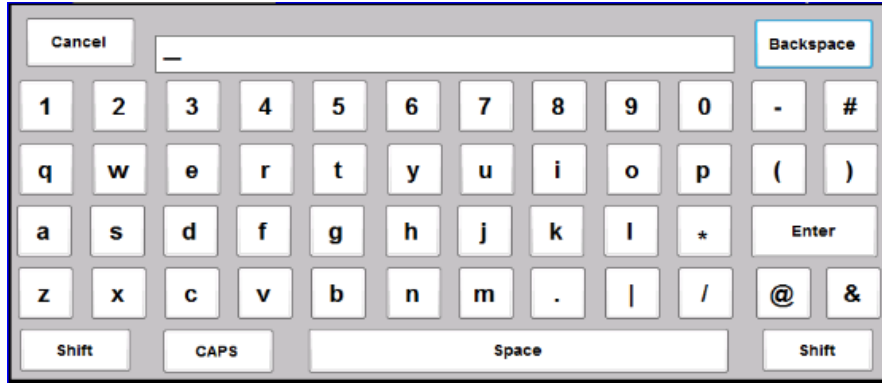

Figure 5-11. Tool Name Entry Window
1. On the Tool Program Menu, select TOOL NAME. The Alphabetic Entry window displays (see Figure 5-11).